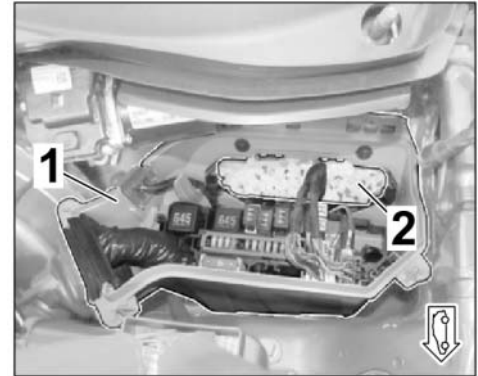

Figure 11
- 1.4.4 Remove cover on fuse box (E-box) in cowl panel (⇒ *Figure 11*).